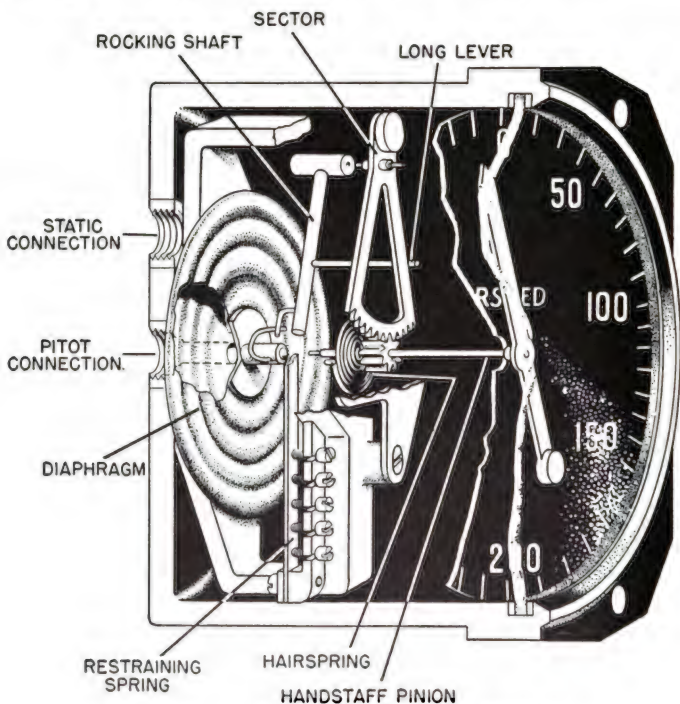

Figure 27.—Mechanism of an airspeed indicator.
ward speed of the airplane is led from the pitot tube into a DIAPHRAGM CAPSULE inside the instrument case. Air at undisturbed atmospheric pressure is led from the static tube into the case itself. The difference between these two pressures, therefore, depends on the forward speed of the airplane, and is measured by the expansion and contraction of the capsule. In figure 27 you can see the working parts of a typical airspeed indicator. The connections (P) and (S) are for the pitot line and static line, respectively. The capsule (A) in center of illustration is linked to the pointer mechanism by a system of levers and gears. The case (K) is airtight except for the static line connection.